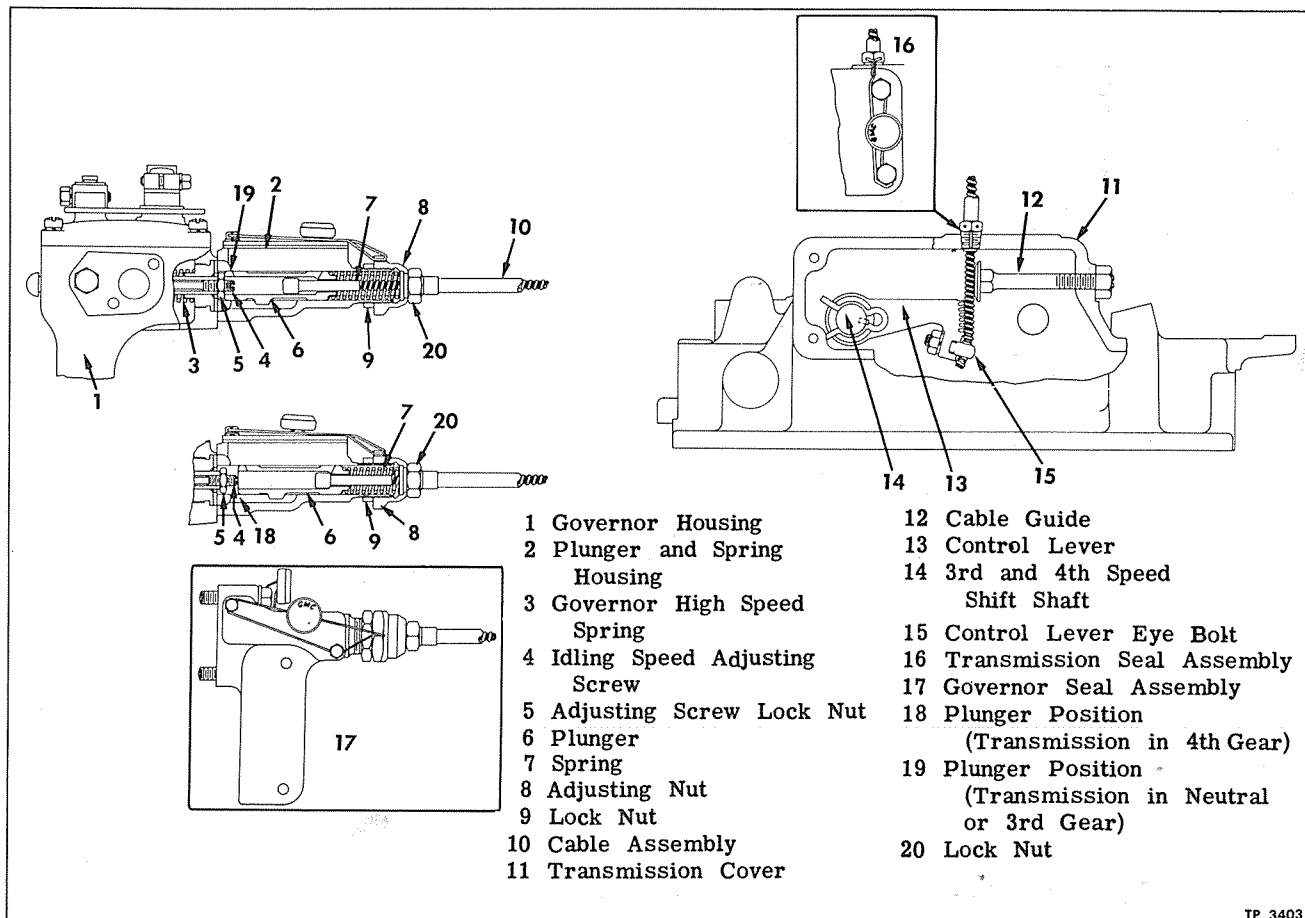

Figure 6—Duo-Speed Governor Control Adjustment
Duo-speed governor control consists essentially of a flexible control cable connecting transmission shifting mechanism with Duo-speed governor plunger and spring as shown in figure 6.
When vehicle is operated in 1st, 2nd, or 3rd gear, Duo-speed governor spring (fig. 6) supplements high speed spring in governor proper, there-
2. Install covers at transmission and Duo-speed adapter, then seal as shown in figure 6.
PLUNGER AND SPRING ADJUSTMENT (Fig. 6)